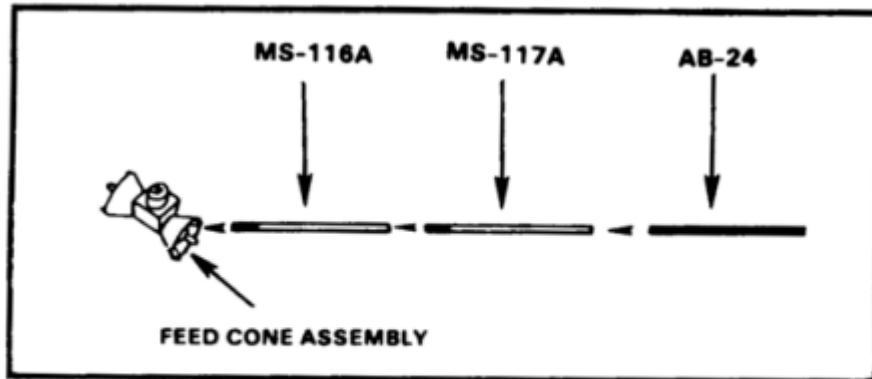

Figure 3-10. Assembling antenna elements.
- d. Assemble six sets of antenna sections (one each: MS-116A, MS-117A, and AB-24 in each section) (Figure 3-10).